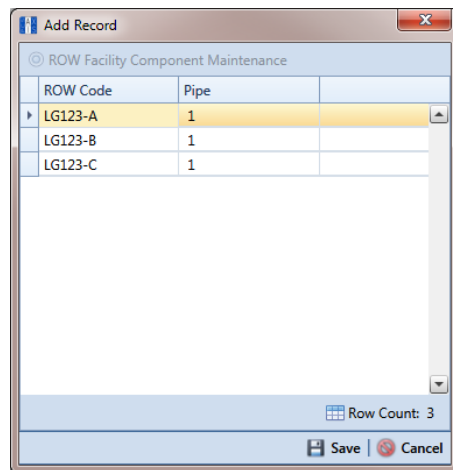

Figure 4-19. Add Record
- Click **+ Add** to open the *Add Record* dialog box (Figure 4-19).